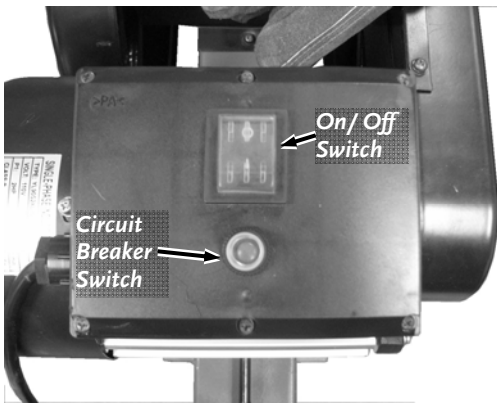

Figure 5
3. Push the red On/Off Switch to the On (I) position (**Figure 5**).
1. Push the On/Off Switch to the Off (0) position to shut the Motor off (**Figure 5**).
1. Push the Circuit Breaker Switch in to reset (**Figure 5**).